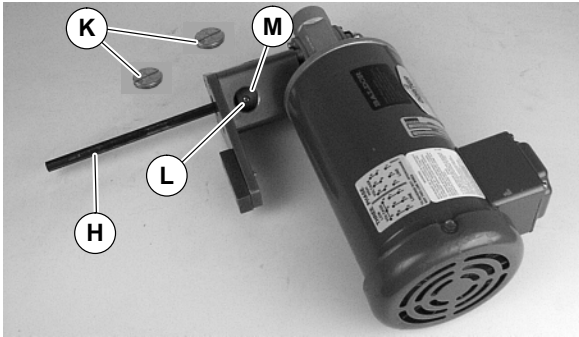

Figure 6
4a. Remove inspection plugs (K of Figure 6).
6a. Jog motor and rotate coupling to align set screw (L of Figure 6) with access hole (M). Tighten to 32 in-lb (3.7 Nm). Repeat for second set screw.